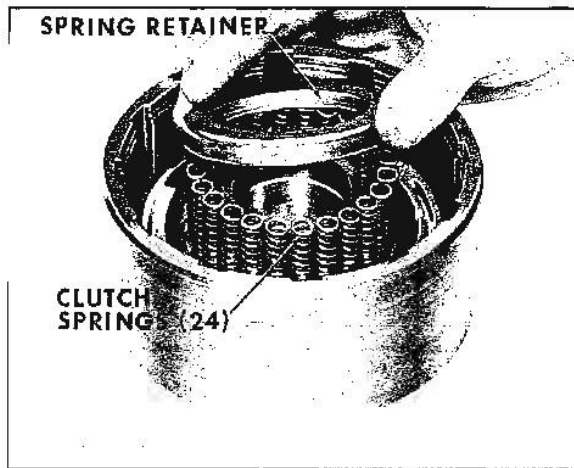

Fig. 7B-80 Installing Spring Retainer
5. Install piston return springs and spring retainer (Fig. 7B-80). Place snap ring in position on top of retainer.